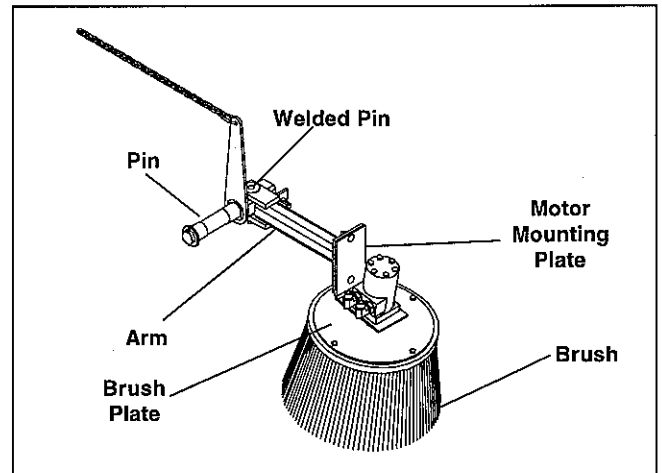

figure 22
4. Slide the gutter brush pin (figure 22) into the sleeve. Place the round plate on the gutter brush pin and secure with a roll pin.
5. Place the gutter brush arm (figure 22) on the gutter brush pin and secure with the welded pin (figure 22) and cotter pin.
6. Attach the motor mounting plate (figure 22) to the gutter brush arm.
7. Place motor on motor mounting plate (figure 22) and secure with screws indicated in parts list.
9. Attach the brush assembly to the motor (figure 22) using the set screw and screw provided.